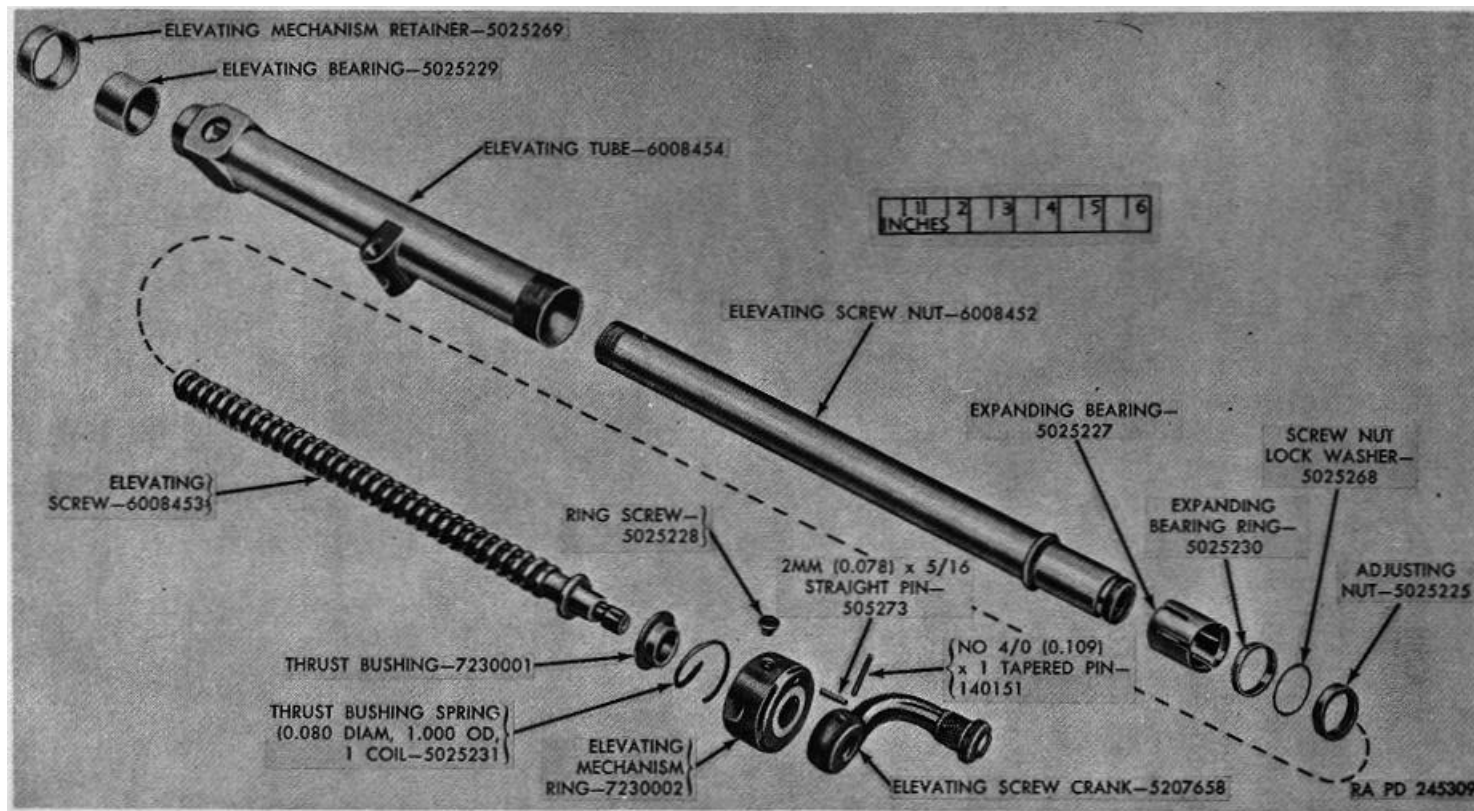

Figure 24. Elevating mechanism assembly—exploded view.
- c. Remove ring screw from the elevating mechanism ring (fig. 24). Back off the ring, turn the elevating screw crank, and remove the elevating screw from the elevating screwnut (fig. 24).
- d. Drive the tapered pin out of the elevating screw crank (fig. 24); unscrew the crank. Drive out straight pin and remove the elevating mechanism ring, thrust bushing, and thrust bushing spring from the elevating screw (fig. 24).
- e. Back off the elevating mechanism retainer and pull the elevating tube off the elevating screwnut (fig. 24).
- f. Back off the adjusting nut and remove the screwnut lockwasher, expanding bearing ring, and expanding bearing from the elevating screwnut (fig. 24).
- g. The elevating mechanism retainer and the elevating bearing will slide off the elevating screwnut (fig. 24). The bearing may have to be tapped off lightly with a soft metal hammer or a wooden block and hammer.
- a. Slip expanding bearing on elevating screw nut and follow with expanding bearing ring (tapered end leading) and screw nut lockwasher (fig. 24) (stud on washer should lead and fit into recess in nut). Screw on adjusting nut andpeen lockwasher over the flat of nut (fig. 24).
- b. Secure elevating screw in vise with soft jaws. Place thrust bushing (flanged end leading) over elevating screw and follow with thrust bushing spring (0.080 diam. 1.000 od, 1 coil) (fig. 24). Place elevating mechanism ring over elevating screw (fig. 24); press ring down against the spring, making certain the 2-mm (0.078) x 5/16 straight pin in ring fits in the cut in the bushing. Hold ring in this position and screw elevating screw crank (fig. 24) on the elevating screw until holes in the crank and screw align.
- c. Drive in No. 4/0 (0.109) x 1 tapered pin to secure elevating screw crank to elevating screw (fig. 24).
d. Screw elevating screw into elevating screwnut (fig. 24) as far as it will go. Insert the unit into elevating tube (through bottom). Screw tube into elevating mechanism ring until screw holes align and screw in ring screw (fig. 24).
e. Place elevating bearing in elevating tube (fig. 24) over elevating screwnut. Screw elevating mechanism retainer on elevating tube (fig. 24).